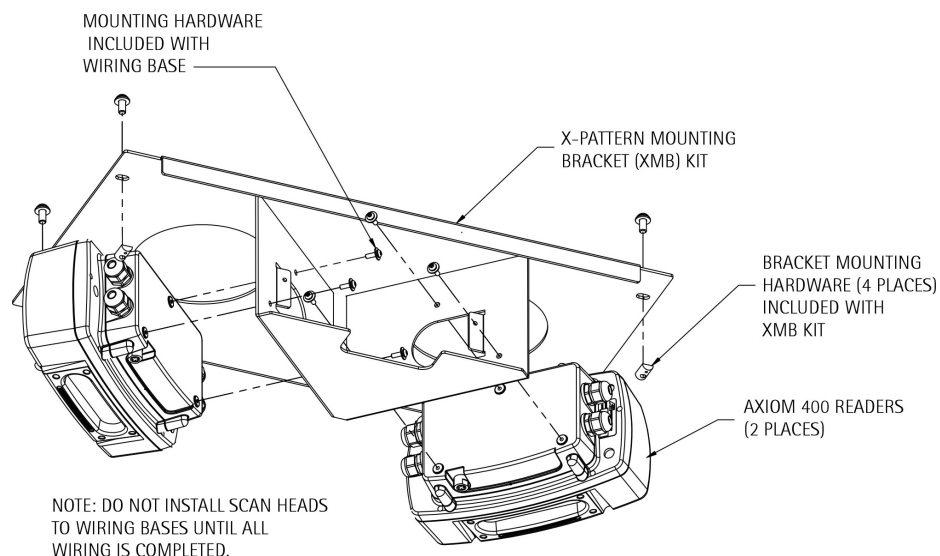

Figure 3-12: Attaching Wiring Base to X-Pattern Mounting Bracket (XMB)
2. Mount both wiring bases to the XMB (2 places). (See Figure 3-12.) Use the three screws provided with each wiring base.